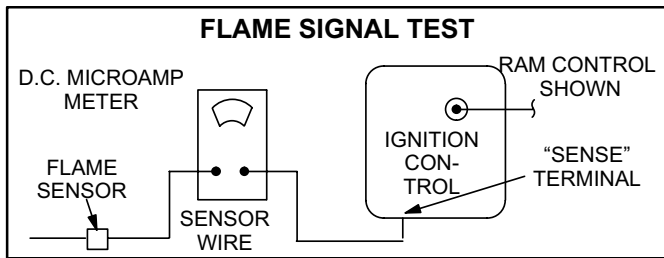

FIGURE 21
- 1 - Place meter in series between furnace control and sensor wire. Connect the positive (+) lead of meter to the ignition control sensor connection and the negative (-) lead of the meter to the sensor wire. See figure 21.